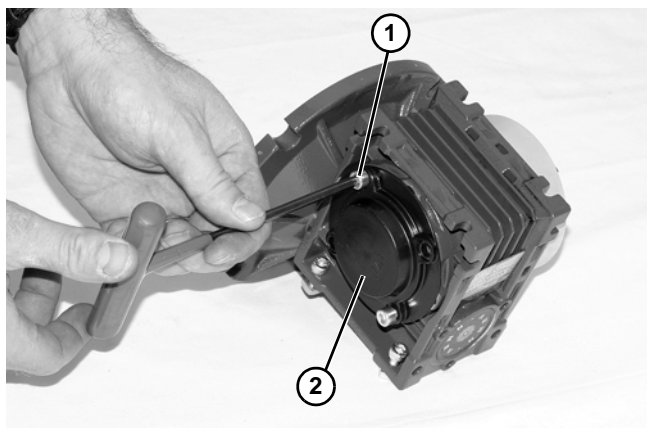

Figure 21
6. Remove two (2) screws (**Figure 21, item 1**) and detach output shaft cover (**Figure 21, item 2**).